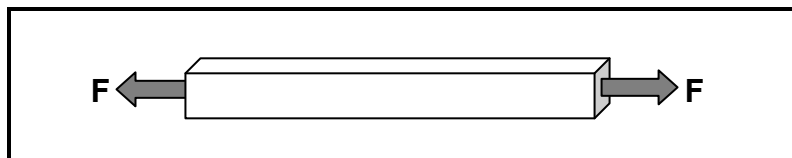

FIGURE 1.12
1.12 What type of force is shown in FIGURE 1.12 below?